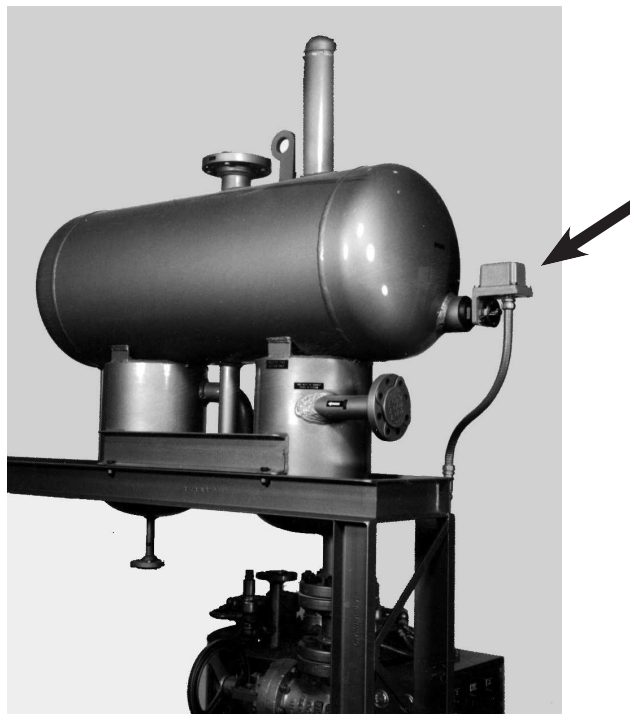

FIGURE 14 - LIQUID LEVEL SWITCH LOCATION
2. The location for the liquid level switch (Figure 14) is a 2-1/2” NPT connection on the same end of the tank as the inlet. The liquid level switch is supplied and shipped with the unit, and must be installed by the customer and then wired to the control panel.